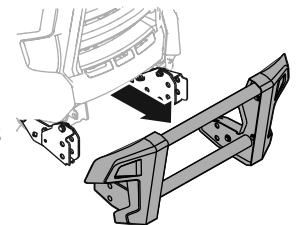

Figure 58
- The brush guard assembly may now be removed. See Figure 58.